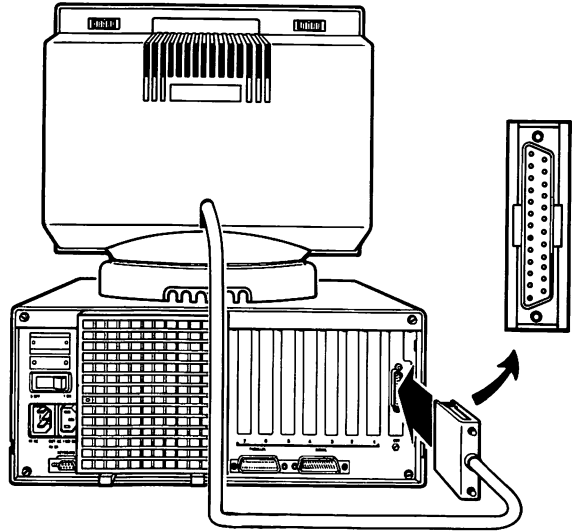

Figure 1-11. Connecting a monochrome display.
- Look at the end of the plug on the display cable. Notice that the ring around the pins is wider on one side. Turn the plug so that the wider side is on the left, as shown in Fig 1-11.